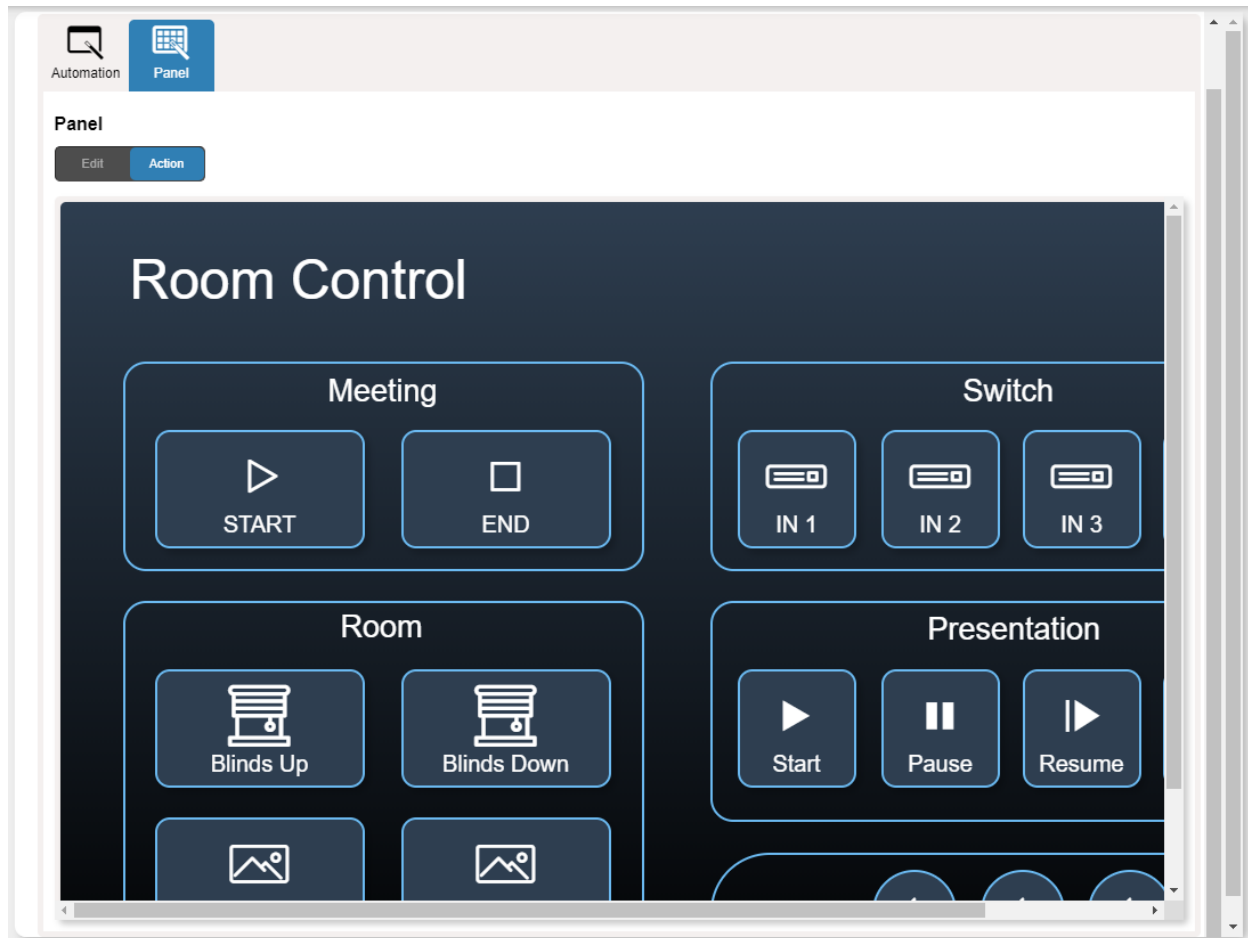

Figure 43:Automation Page – Panel Tab
2. Click the **Panel** tab. The default **VS-411XS** Maestro Room Control panel appears (see Figure 43).
2. Click the **Panel** tab. The default **VS-411XS** Maestro Control Panel appears (see Figure 43).
2. Click the **Panel** tab. The **VS-411XS** Maestro Control Panel appears (see Figure 43).
2. Click the **Panel** tab. The **VS-411XS** Maestro Control panel appears (see Figure 43).